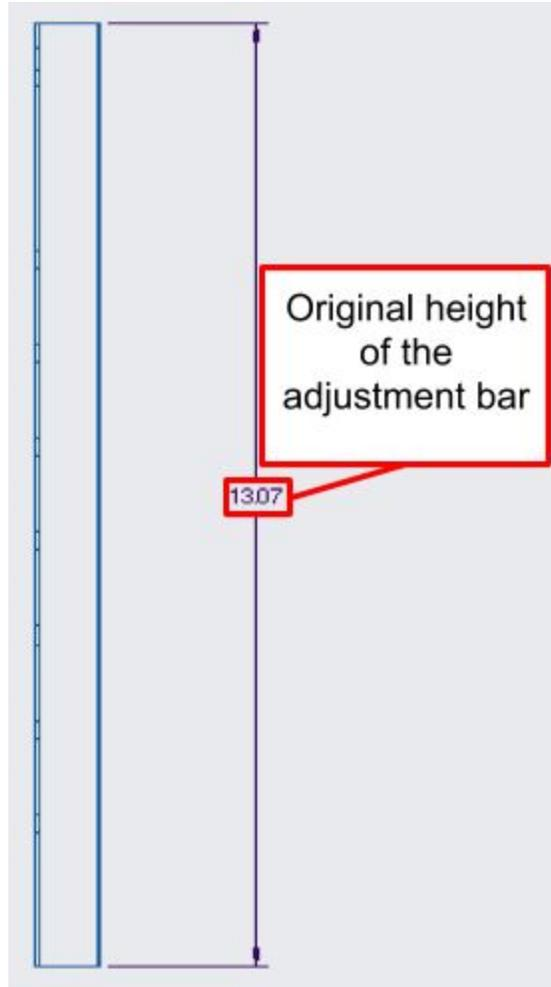

Figure 14. A close-up of the adjustment bar engineering drawing, showing the original height of the component before modification.
- c. The 12.32" dimension correlates to cutting down the previously 13.07" tall adjustment bar (as seen in Figure 14) by 0.75".